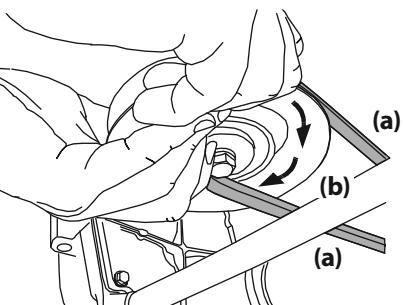

Figure 39
- (a) downward, continue turning the PTO pulley (b) until the PTO belt (a) is rolled off the PTO pulley (b). Refer to Figure 39.
8. Pull the right side of the PTO belt rearward and place the narrow V-side of the PTO belt into the PTO pulley. See Figure 39.
9. While holding the PTO belt and PTO pulley together, rotate the PTO pulley to the left (See Figure 39). Continue holding and rotating the PTO pulley and PTO belt until the PTO belt is fully rolled into the PTO pulley.